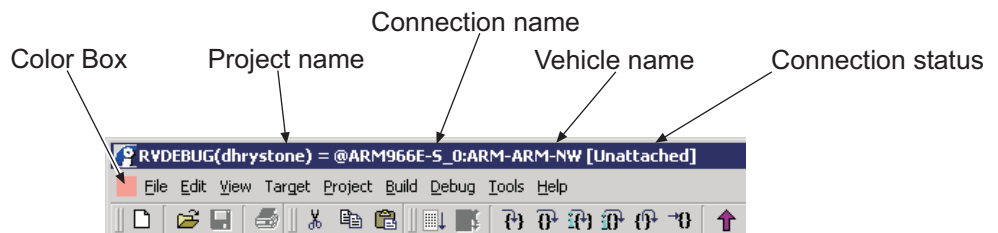

Figure 5-7 Connection information in the Code window title bar
The Code window title bar gives details of the connection and any processes running on your debug target. If you connect to a target and load an image, your title bar looks like the one shown in Figure 5-7.
- In RealView Debugger, a project can be associated with a connection, that is it is *bound* to that connection, shown in Figure 5-7 on page 5-17. See *Working with projects* on page 5-30 for details on project binding.